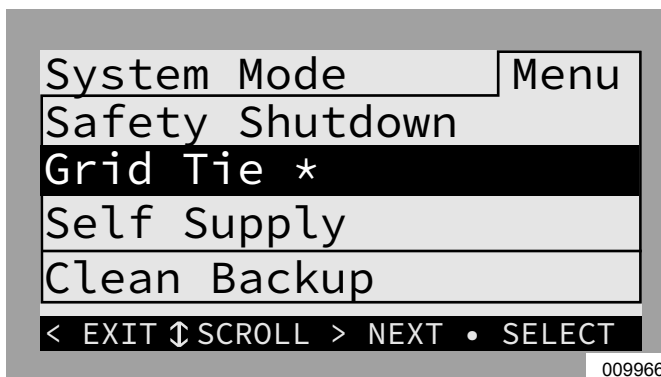

Figure 6-3. Selecting System Modes (1 of 3)
2. See Figure 6-3. A list of system modes will be displayed with the current mode marked with an asterisk.
NOTE: The list of system modes may not include all those shown in Figure 6-3.